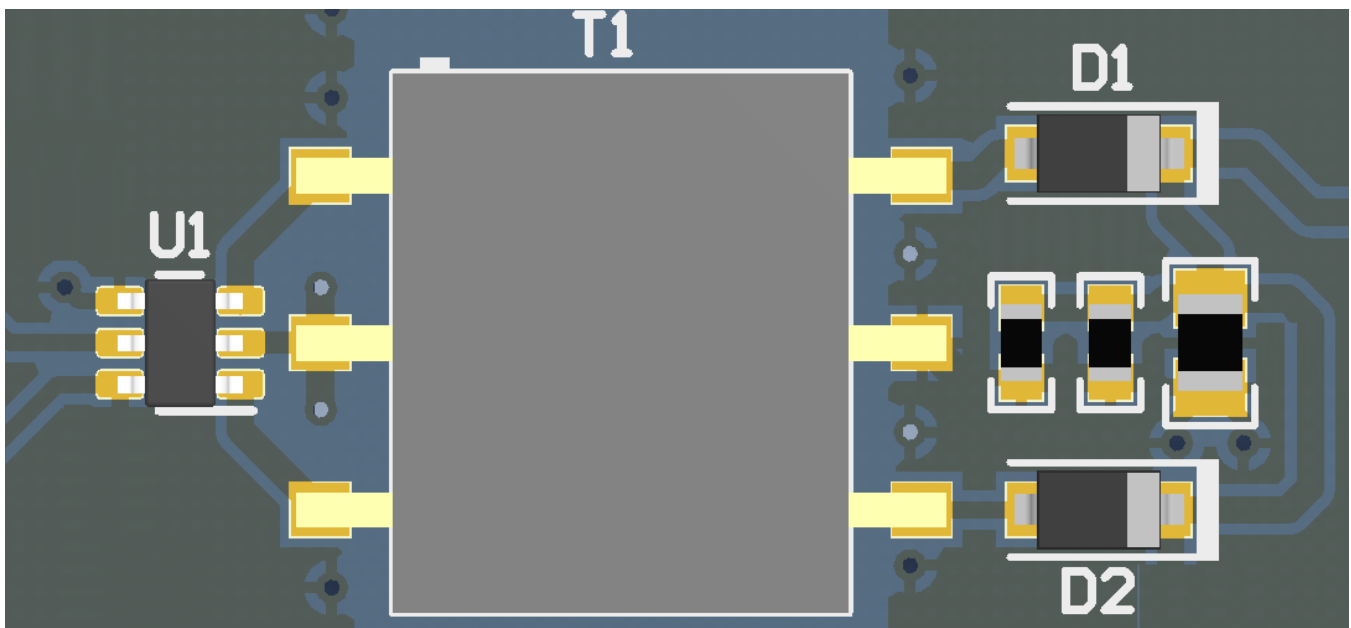

图 52. Layout Example of a 2-Layer Board
- The optimum placement is closest to the V_{IN} and GND pins at the board entrance to minimize the loop area formed by the bypass-capacitor connection, the V_{IN} terminal, and the GND pin. See 图 52 for a PCB layout example.